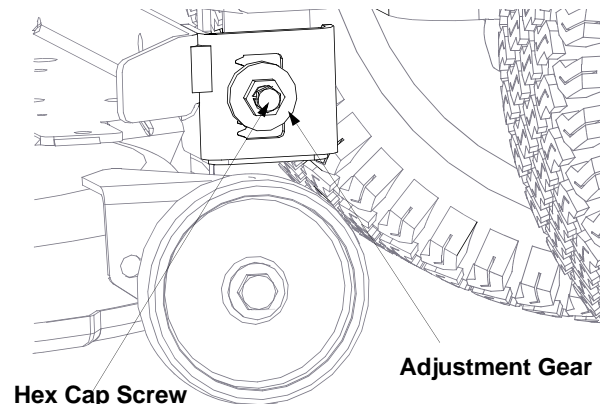

Figure 10
3. Loosen, but do **not** remove, the hex cap screw on the left deck hanger bracket. See Figure 10.
4. To balance the deck turn the adjustment gear, located immediately behind the hex cap screw, clockwise/up or counterclockwise/down. See Figure 10. You will need an adjustable wrench for this step.